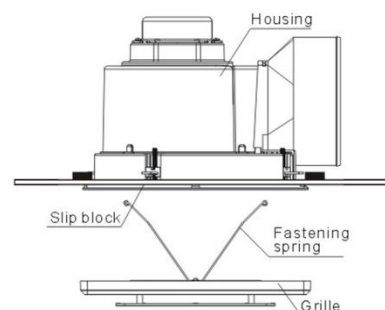

Fig. 4 – Fix the fan in place and install cover
9. Position fan in hole and with screwdriver, rotate mounting screws until slip blocks firmly secure fan onto ceiling plaster. *Do not over-tighten.* (Fig 4)